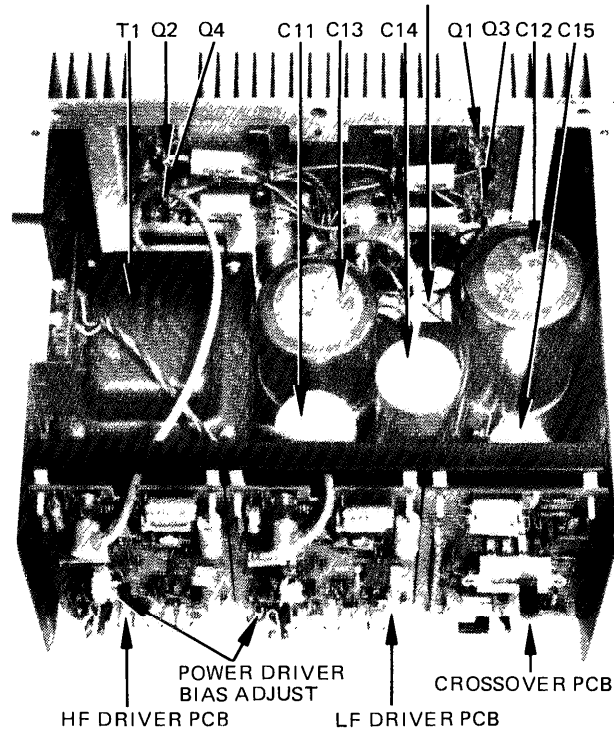

Figure 4. Interior of 1224A Biampifier
Adjustment of the power driver bias controls may be required when replacing power transistors, or a power driver printed circuit board assembly. One bias adjusting control is located on each power driver circuit board (PCB); see Figure 4. These controls set bias for proper crossover between negative and positive signal components of power transistors Q1 and Q2 (HF), and Q3 and Q4 (LF); see Figures 4 and 5. Improper adjustment of these controls results in distortion at the crossover frequency. To adjust either bias potentiometer, proceed as follows:
- Adjust Power Driver Bias Control R35 (either HF or LF) as necessary to obtain reading of 17.5 mV (see Figure 4). Clockwise adjustment increases voltage; counterclockwise adjustment decreases voltage.
Three circuit board assemblies are located within the chassis (see Figure 4). Use the